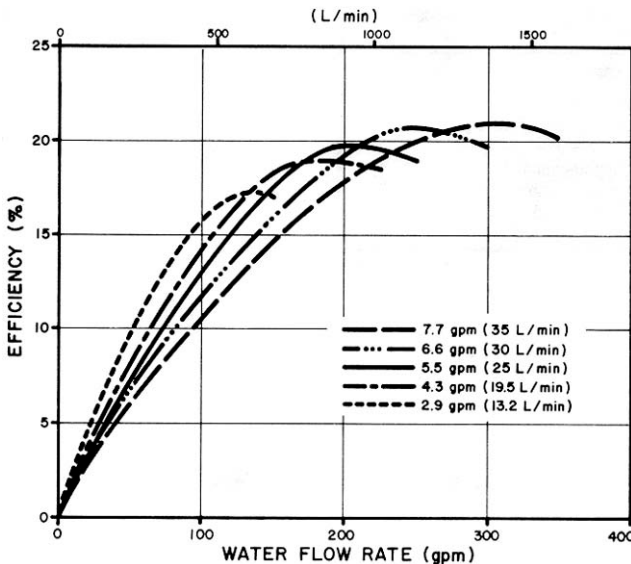

FIGURE 4. Pump Efficiency of the Lloyd's RE-40 at Various Water Flow Rates and Hydraulic Motor Oil Flow Rates.
**Pump Efficiency:** FIGURE 4 shows the pump efficiency of the Lloyd's RE-40 at various water flow rates and hydraulic motor oil flow rates. A peak efficiency of 21% occurred at 7.7 gal/min (35 L/min) hydraulic motor oil flow rate and a 300 gal/min (1365 L/min) water flow rate. Peak efficiency at other hydraulic motor oil flow rates were less and occurred at lower water flow rates.